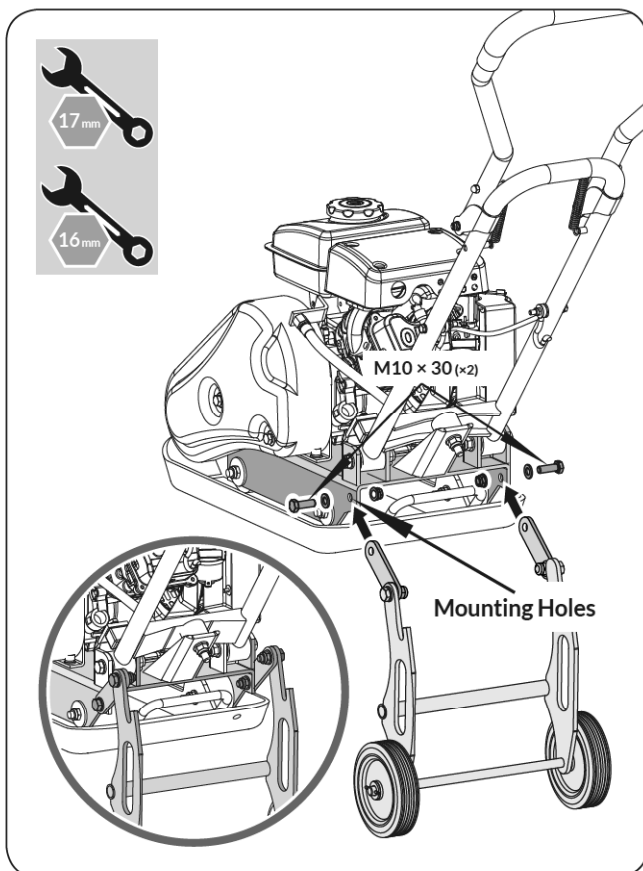

Figure 4a
1. Line up the holes in the link plates and engine deck. Secure the wheels using the nuts, washers, and bolts found in hardware packet #2. Do not overtighten the bolts, leave the wheel assembly so that it can be released with ease. (See **Figure 4a**)